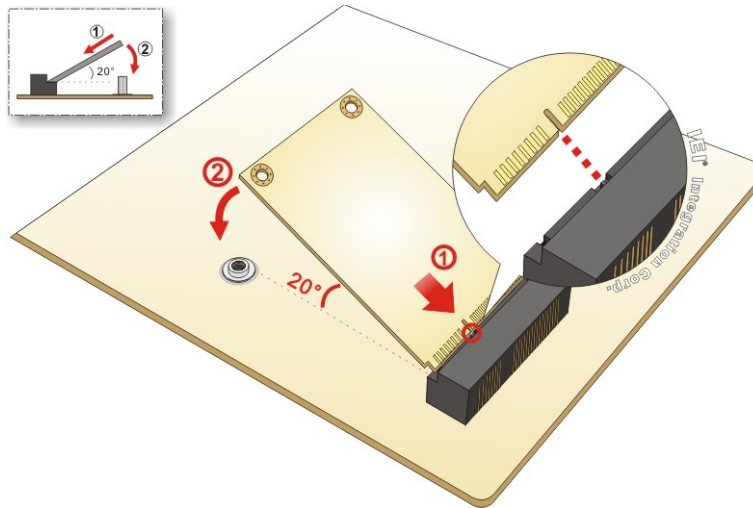

Figure 3-14: Installing an mSATA Module
Step 5: Line up the notch on the mSATA module with the notch on the connector. Slide the PCIe Mini card into the socket at an angle of about 20° (**Figure 3-14**).
Step 6: Secure the mSATA module with the retention screw. Push the other end of the mSATA module down and secure the module with the previously removed retention screw (Figure 3-14).